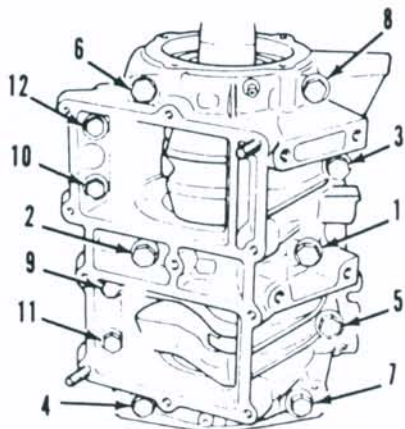
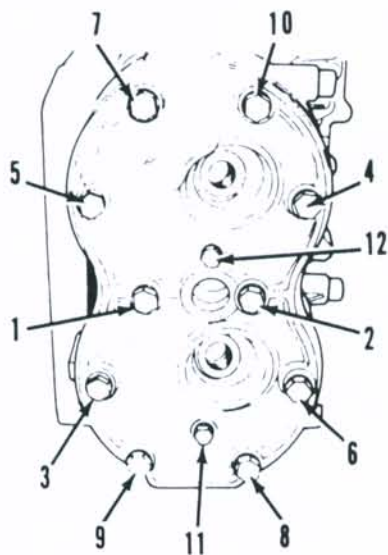
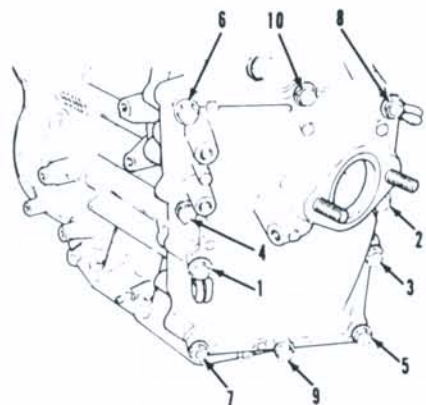
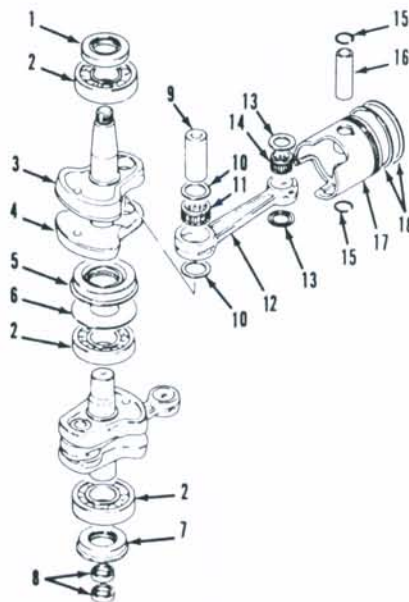

Fig. SZ11-9—Tighten crankcase screws in the sequence shown. Refer to **CONDENSED SERVICE DATA** for screw torques.
Fig. SZ11-10—Tighten cylinder head screws in sequence shown. Refer to **CONDENSED SERVICE DATA** for screw torques.
Fig. SZ11-11—Securely tighten intake manifold screws in sequence shown.
Fig. SZ11-12—Exploded view of piston and crankshaft assembly.
Lubricate crankpin bearings and cylinder walls of cylinder block with Suzuki engine oil or a suitable NMMA certified two-stroke engine oil. Install crankshaft assembly in crankcase. Make sure flange of lower oil seal (7—Fig. SZ11-12) and middle labyrinth seal (5) fits properly in crankcase grooves. Make sure bearing pins engage notches in crankcase. Spread a coat of Suzuki Bond No. 1215 or a suitable equivalent on the mating surfaces of the crankcase and the cylinder block. Position crankcase half on cylinder block and tighten the crankcase screws in the sequence shown in Fig. SZ11-9 to torques shown in **CONDENSED SERVICE DATA**. Tighten the cylinder head screws in the sequence shown in Fig. SZ11-10 to torques shown in **CONDENSED SERVICE DATA**. Tighten the intake manifold screws in the sequence shown in Fig. SZ11-11.